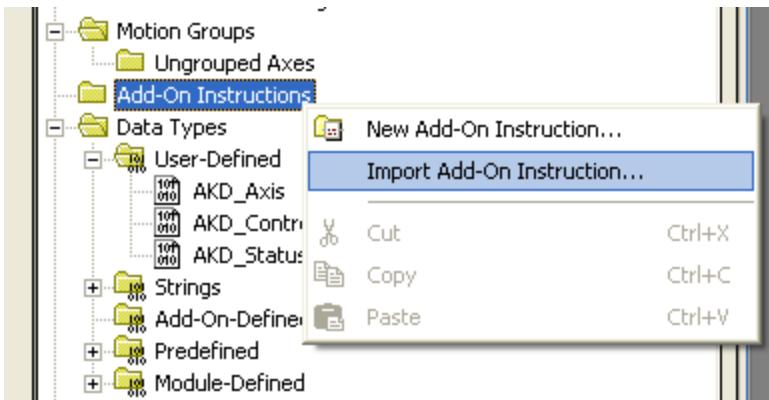

Figure 4-9: Importing Add-On Instructions
5. Next, to import the add-on instructions, right click on the “Add-On Instructions” folder and select “Import Add-On Instruction...” (Figure 4-9: Importing Add-On Instructions)